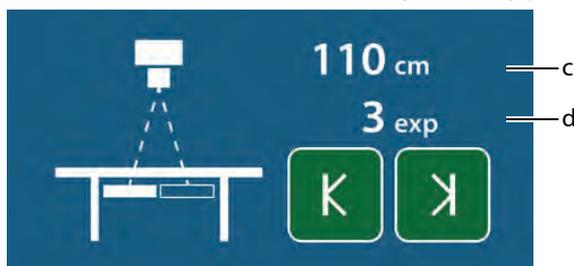

Fig. 4-30 *Left and Right Limits Set.*
- When both limits have been defined, the total length of the composite image (c), see Fig. 4-30 *Left and Right Limits Set.* and the number of exposures (d) will be shown.